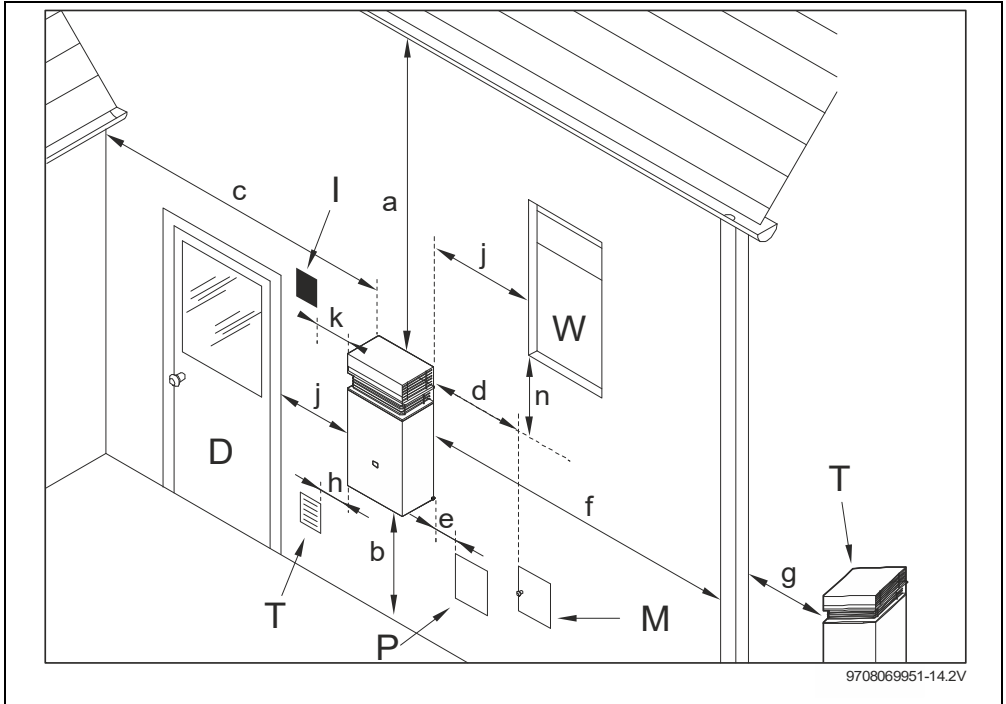

Fig. 4 Minimum clearances (use as a guide only, always refer to AS/NZS5601)
- Install the appliance in accordance with the minimum installation clearances indicated in Fig. 4, according to AS/NZS5601.